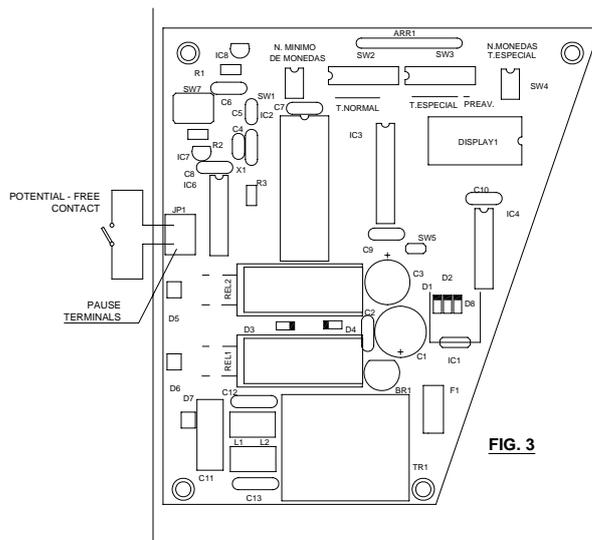

FIG. 3
**PAUSE:** The pause function is used to temporarily stop timing without loss of memory. The appliance enters this status when the pause terminals are disconnected and remains in this status until their contacts become short-circuited again. This opening of the circuit can be achieved either by means of a switch or by means of a potential-free relay, see figure 3. IN ORDER TO AVOID MEMORY LOSS IN THE APPLIANCE IT MUST BE RECEIVING POWER SUPPLY.